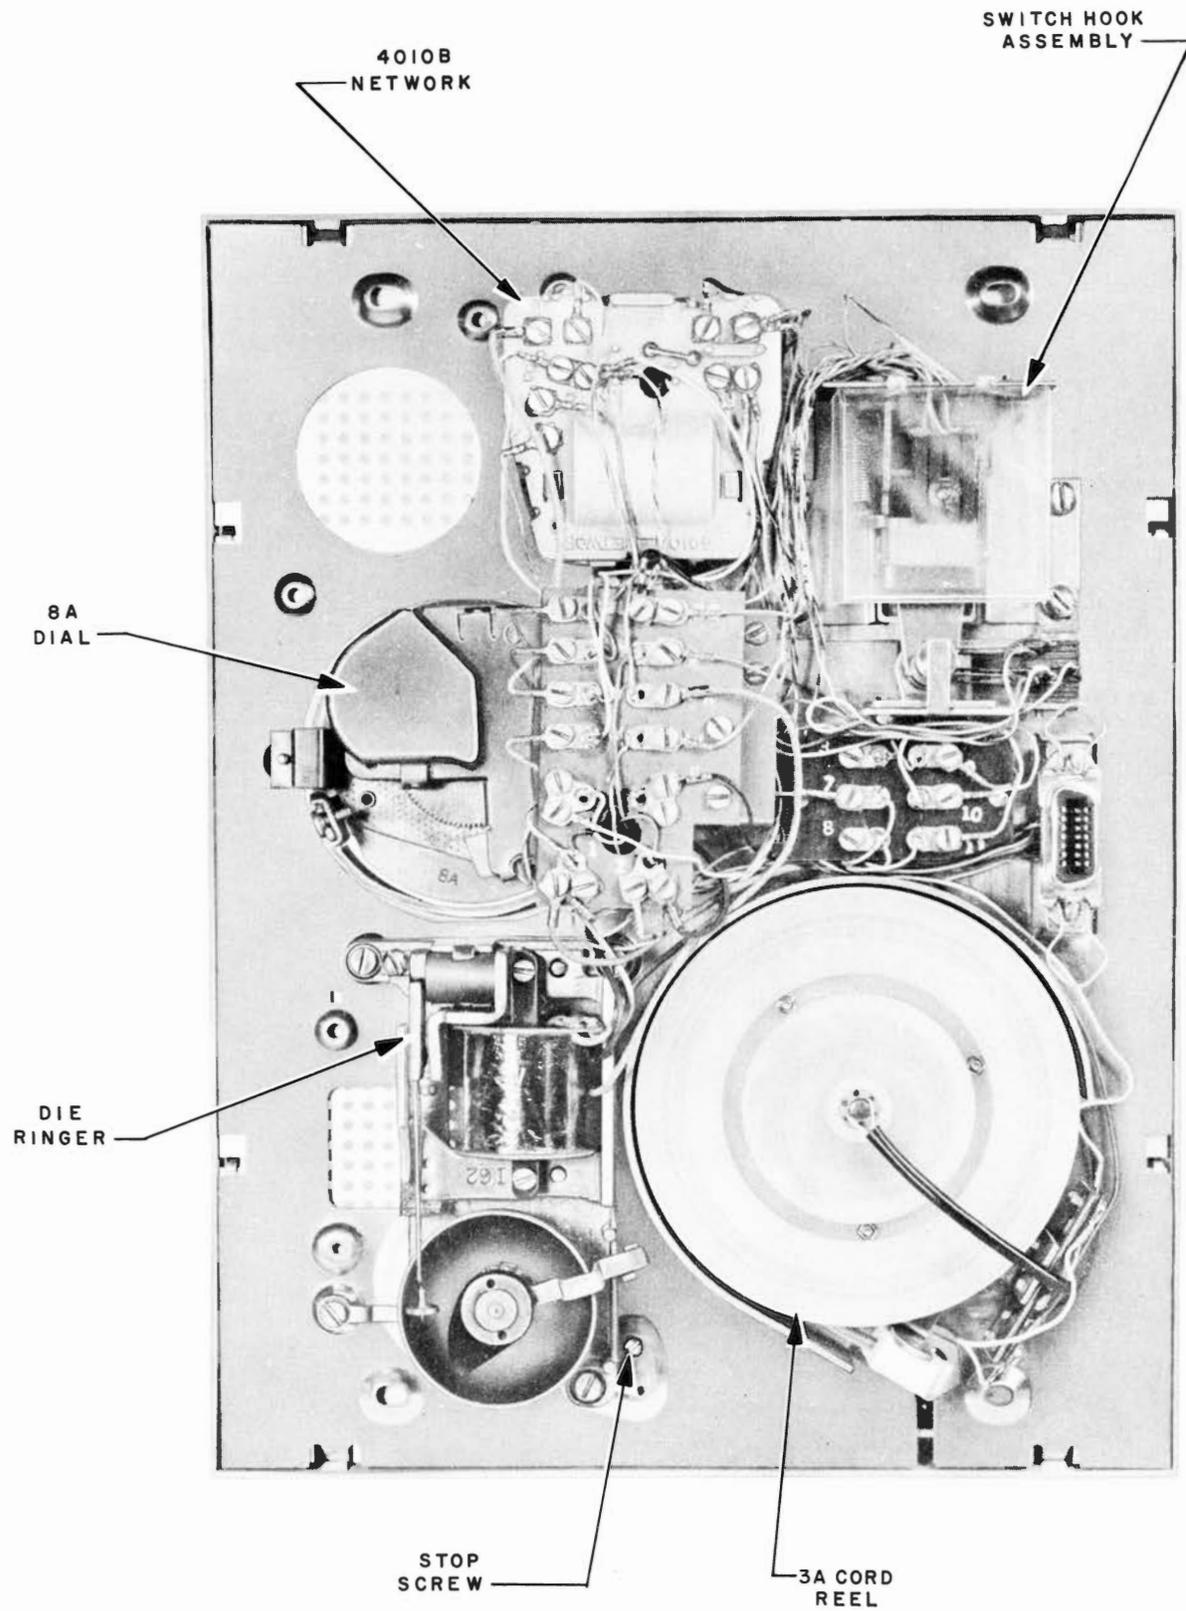

Fig. 4 - 751-Type Telephone Set, Components on Panel, Rear View
- 1.05 Figure 4, 5, and 12 are pictures of shop model equipment. Production models may vary slightly.
2.03 Table A lists the component parts of these sets and Fig. 4 and 5 show the arrangement of the components on the steel panel.